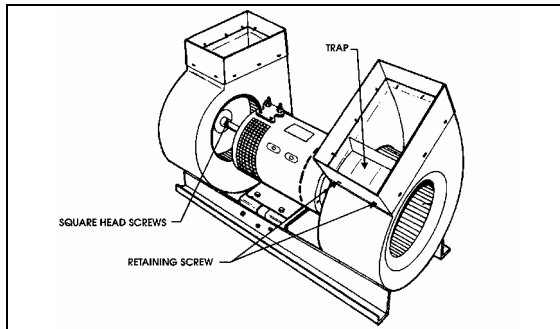

FIGURE 16: EVAPORATOR MOTOR ASSEMBLY 22036
6. From under the vehicle, remove the eight bolts retaining the evaporator fan motor support. Remove the complete unit from the evaporator compartment (Fig. 16).